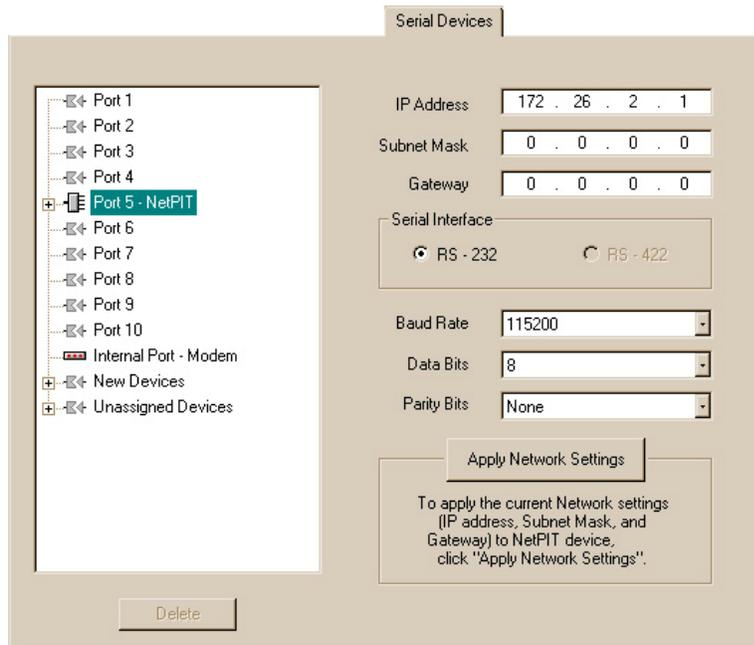

Fig. 17. A NetPIT device assigned to PORT 5 on a Multi-Media DSP unit. When expanded, a NetPIT device displays sixteen ports, labeled “A” to “P”.
- Port assignment for a NetPIT device shows more network settings. See figure 17.
- **NetPIT.** From the “Unassigned Devices Group”, drag the NetPIT device to a port. Enter the IP and communication settings for the device, then click **Apply Network Settings**. See figure 17.